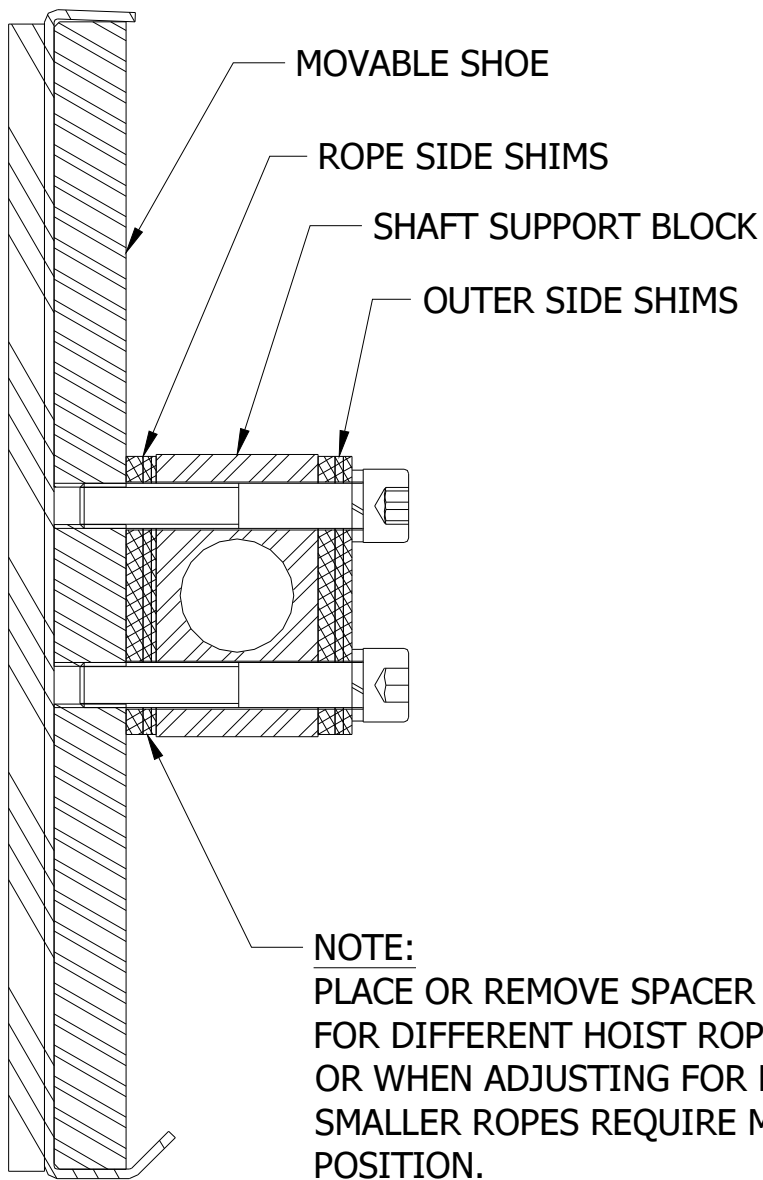

Figure 6
- If the lining wear-in is not completed after the grooves in the linings have reached approximately 1.5 mm deep, spacer shims (Figure 6, p. 7) can be moved from between the shaft support blocks and moveable shoe to the outside of the support block to allow the rotating shaft to just turn the corner and move up the cam to near the wear-in line. Refer to Table 2 (p. 8) for initial spacer and shim set-up. **Note: Before changing spacers, install security set screws to prevent unintended “ROPE GRIPPER™” activation, which could lead to severe personal injury and/or damage to the unit.**
2. If lining wear is not excessive (less than 3/16" or 4.75 mm), spacer shims (Figure 6, p. 7) can be moved from below the bolt heads (outer side) to between the shaft support blocks and the moveable shoe (rope side). Remove the bolts that hold the blocks to the movable shoe, move the spacer shims to under the blocks and reinstall and tighten bolts. Addition of shims on the rope side will lower the position of the rotating shaft toward the bottom end of the cam when clamping.